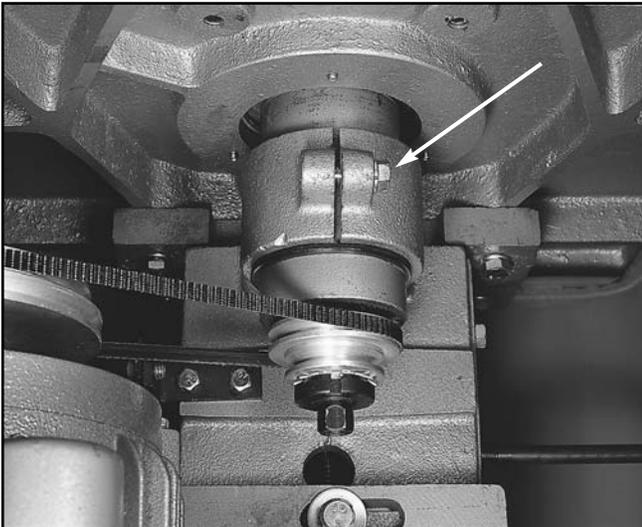

Figure 31. Locking bolt on spindle slide.
2. Loosen the locking bolt on the spindle slide shown in **Figure 31**.